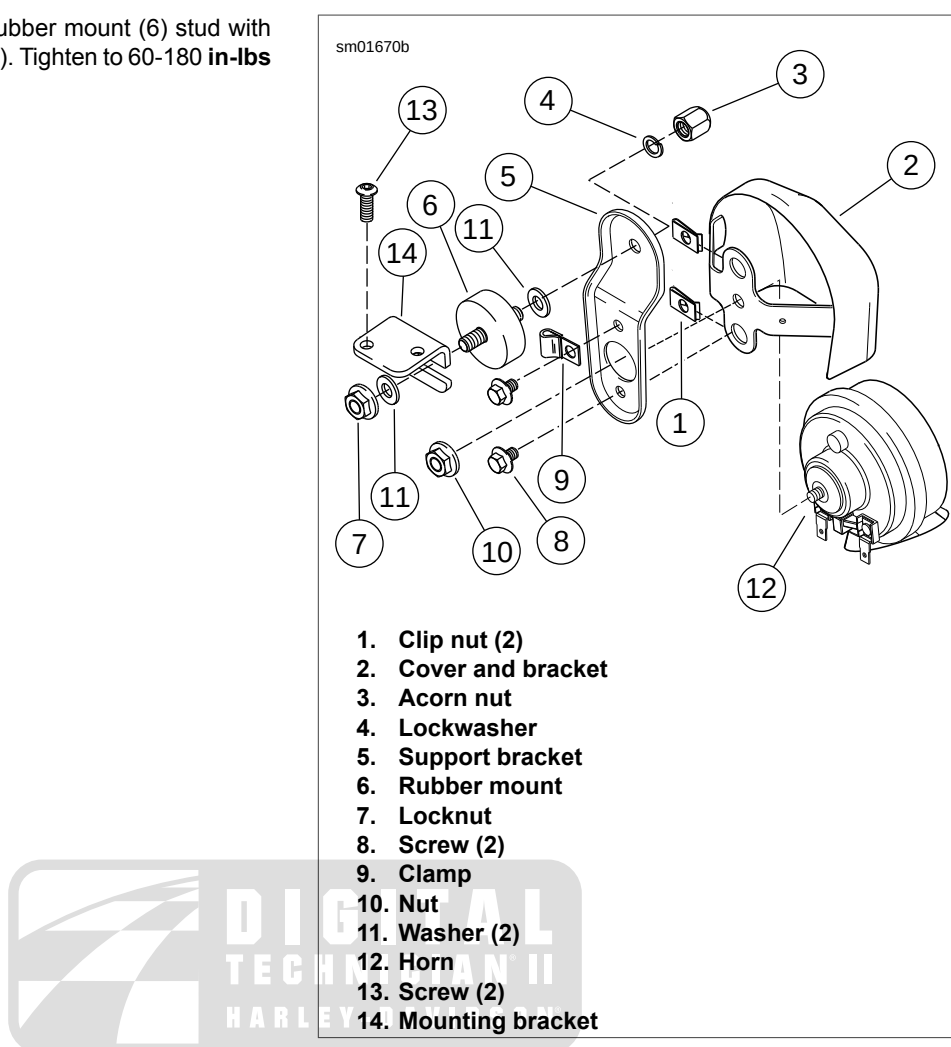

Figure 6-134. Side Mount Horn Components
- See Figure 6-134. Remove terminal clips from horn spade connections on back of horn (12).
- Remove acorn nut (3) and lockwasher (4) to free horn assembly from rubber mount (6) stud.
- Remove wire conduit from clamp (9) at back of support bracket (5).
- Remove nut (10) from circular recess at back of chrome cover and bracket (2) and remove horn (12) from cover and bracket.
- Install horn (12) with chrome cover and bracket (2) through hole in horn support bracket (5). Apply two drops of LOC-TITE 262 HIGH STRENGTH THREADLOCKER AND SEALANT (red) to threads of nut (10) and install. Tighten to 80-100 **in-lbs** (9.0-11.3 Nm).
- Attach the yellow wire with black tracer to front terminal and the black wire to rear terminal. Push wire conduit into clamp (9) at back of horn bracket (5).
7. Install support bracket (5) on rubber mount (6) stud with lockwasher (4) and acorn nut (3). Tighten to 60-180 **in-lbs** (6.8-20.4 Nm).